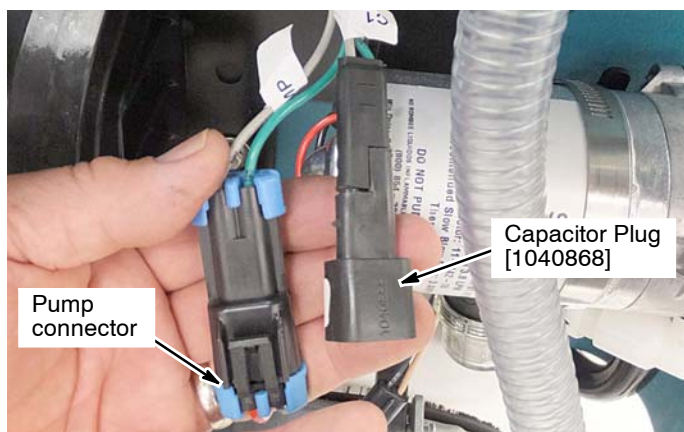

Fig. 20
6. Connect the pump connector to ec-H2O wire harness connector (Figure 20). Plug capacitor into wire harness.